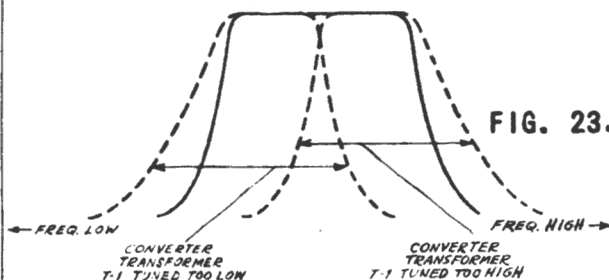
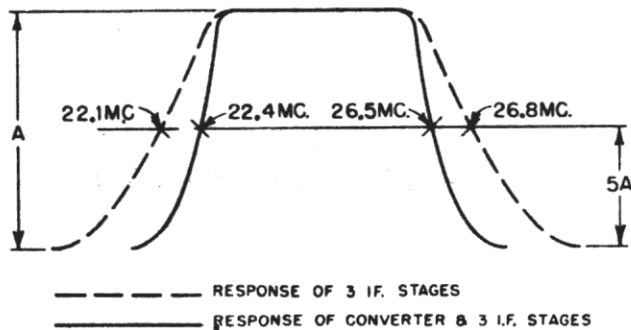

FIG. 23. WAVEFORM - CONVERTER TRANSFORMER T-1
FIG. 24. WAVEFORM -
5. Adjust the 2nd I.F. plate coil, L-36, to place a 22.1 mc marker signal 50% (1/2) the way up the low side of the response waveform. Refer to Figure 24 for marker positions on waveform obtained.
Move the sweep oscillator to the grid of V-9A converter tube. Connect it across Resistor R-7. Set contrast control at about 80% rotation toward maximum gain. Adjust primary of T-1 until 26.5 mc marker is 50% (1/2) way up the high frequency slope. Adjust the secondary of T-1 so 22.4 mc marker is 50% (1/2) way up the low frequency slope. Correct waveform is shown in Figure 24.
CAUTION: In aligning the three I.F. coils, each coil is adjusted individually, but when adjusting the primary and secondary of the converter transformer, T-1, the adjustments should be made simultaneously. The important point to keep in mind, is to obtain as flat and as wide a response curve as possible with as much gain as possible. Simultaneous adjustment of the primary and secondary is the easiest way to obtain this result. It is suggested that both cores be tuned in for moving the transformer curve bodily to a lower frequency by tuning clockwise as viewed from top and bottom of the chassis, or vice versa for tuning the transformer to a higher frequency. The transformer is tuned for the same pass band as the 3 staggered circuits; see Figure 23. The only difference in the waveform should be that the sides of the sides of the overall curve (Figure 24) should be steeper. Constant use of the 50% response marker signals to show the bandwidth of the response curve should be resorted to, since it is absolutely necessary to obtain the proper curve.